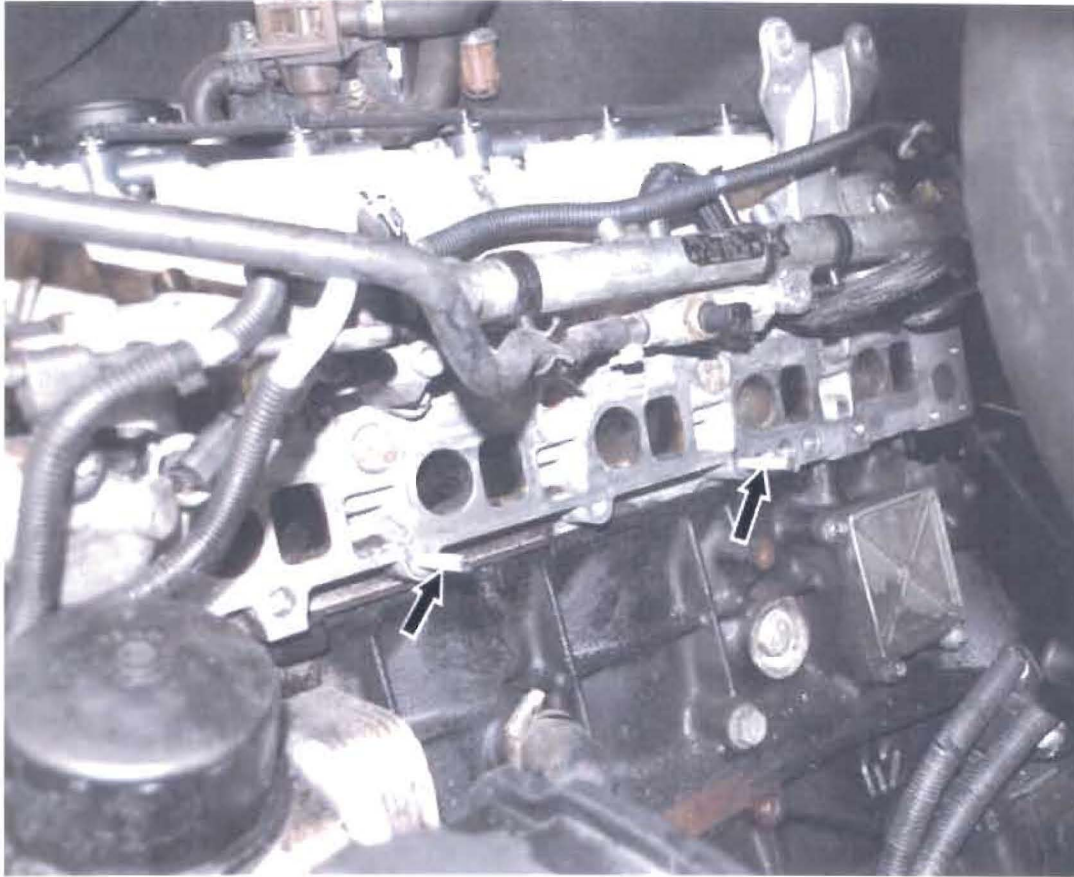

Figure 23
- **Temporarily** install 2 (M7 x 43) threaded studs (shop supply) (arrows, Figure 23) into intake manifold bolt holes to hold intake manifold gasket in place during reassembly.
- Install intake manifold gasket to studs (arrows, Figure 23).
- **Remove** mounting studs (arrows, Figure 23) after installing ("starting") intake manifold bolts (arrows, Figure 26).